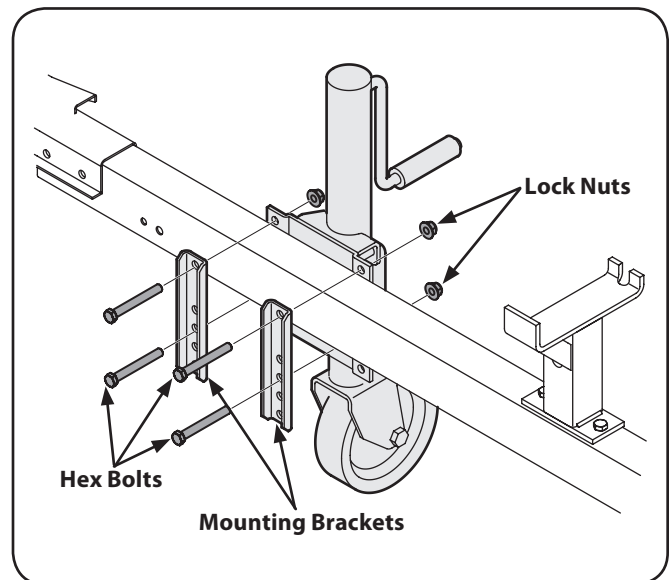

Figure 3-4
2. Place the adjustable jack stand halfway between the beam support/latch bracket and the end of the tongue. See Fig. 3-4.